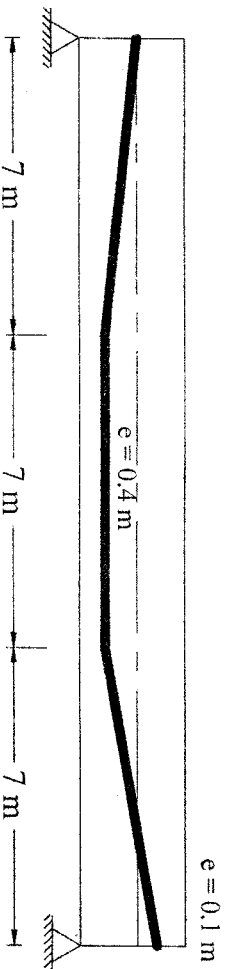

Fig. 3
2. For a simply supported pre-tensioned pre-stressed concrete beam of 21 m span having rectangular cross-section of 300 mm x 1000 mm with the cable profile as depicted in Fig. 3, it is required to carry out the following: